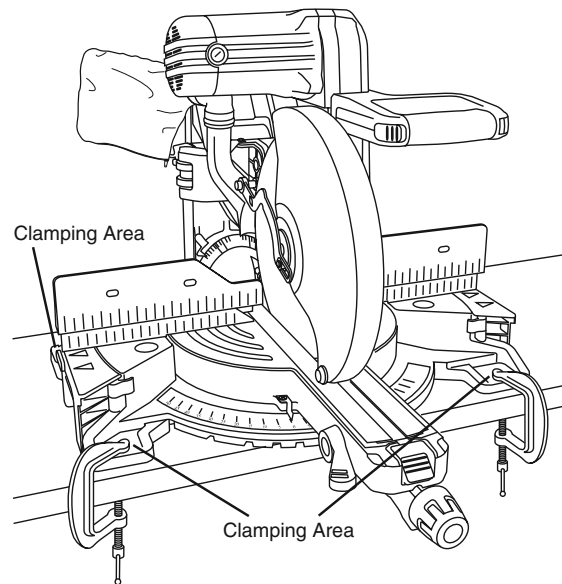

Figure 29. Temporary Mounting Using Clamps
- Place two or more "C" clamps on the clamping areas and secure (see Figure 29). There are clamping areas at all four corners of the saw.
- Be careful not to place clamps over the base extension clamping levers (see Figure 29).